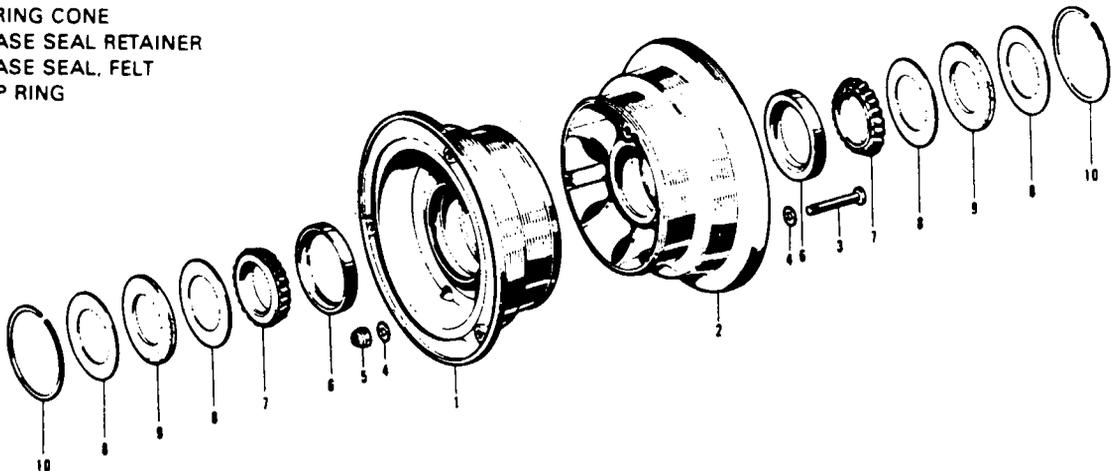

Figure 32-16. Nose Wheel Assembly
**REMOVAL AND DISASSEMBLY OF NOSE WHEEL (CLEVELAND).** (Refer to Figure 32-16.)
**ASSEMBLY AND INSTALLATION OF NOSE WHEEL (CLEVELAND).** (Refer to Figure 32-16.)
**REMOVAL AND DISASSEMBLY OF NOSE WHEEL (B.F. GOODRICH).** (Refer to Figure 32-16.)
**ASSEMBLY AND INSTALLATION OF NOSE WHEEL (B.F. GOODRICH).** (Refer to Figure 32-16.)